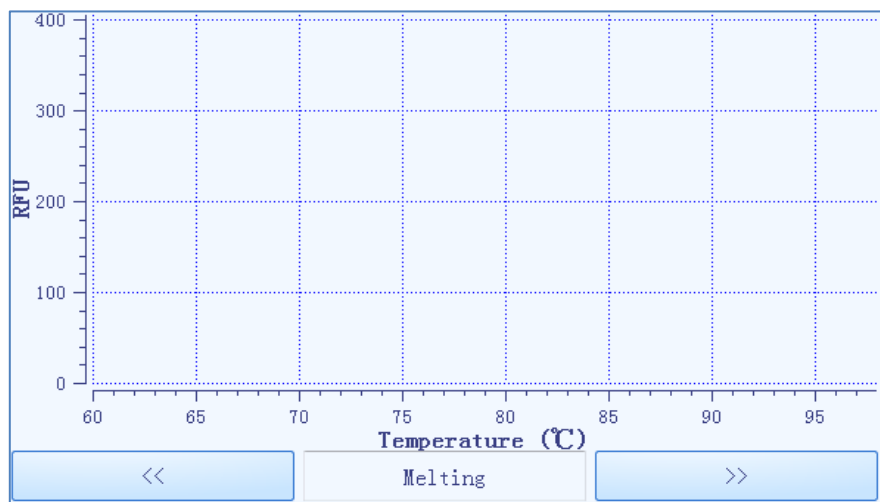

Figure E-4.2. Run Monitoring Diagram - Real-time Melting Curve
- b. User can press key below the run monitoring diagram to monitor the real-time **Melting** curve of the current experiment, as shown in figure E-4.2.